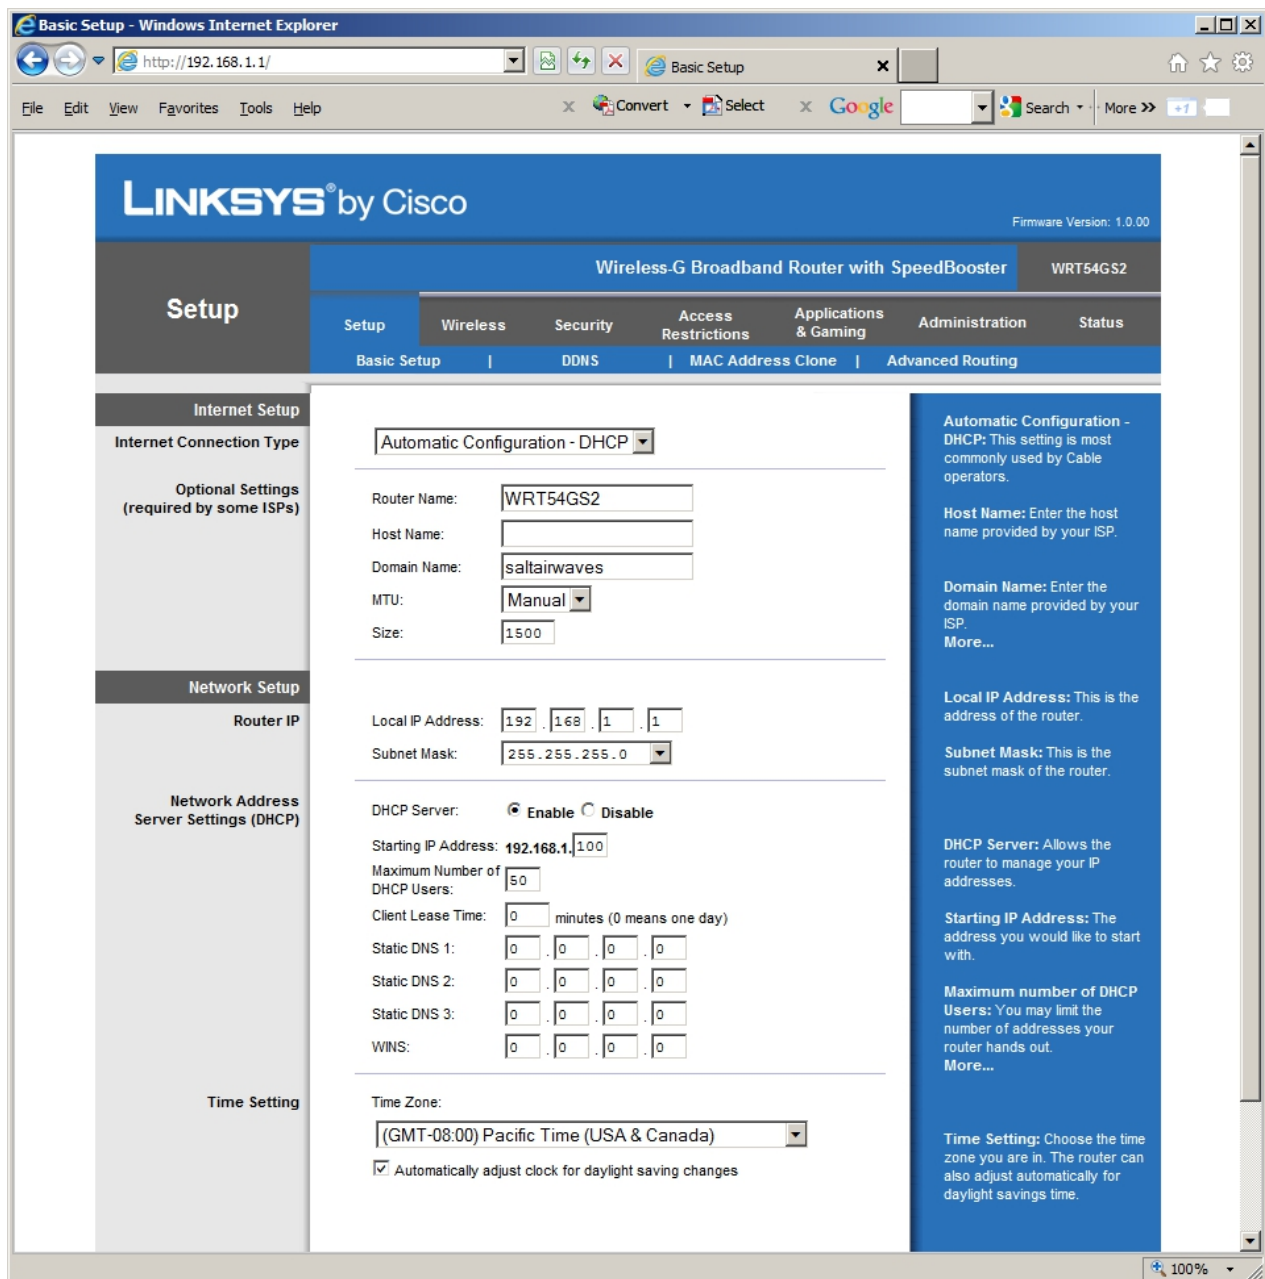

Figure 10
1. With a computer connected to the remote site LAN router, open the browser and enter the router's I.P. address to open the router's configuration page (Figure 10). Various makes of routers will show different pages. The examples here show the Linksys router's configuration pages. If you have a Linksys router, the default URL is <http://192.168.1.1>.